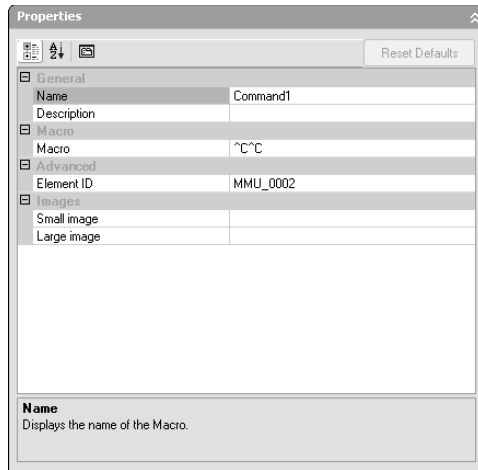

Figure 33-7: Specify the properties of a new command in the Properties pane.
3. In the Properties pane, shown in Figure 33-7, complete the following: